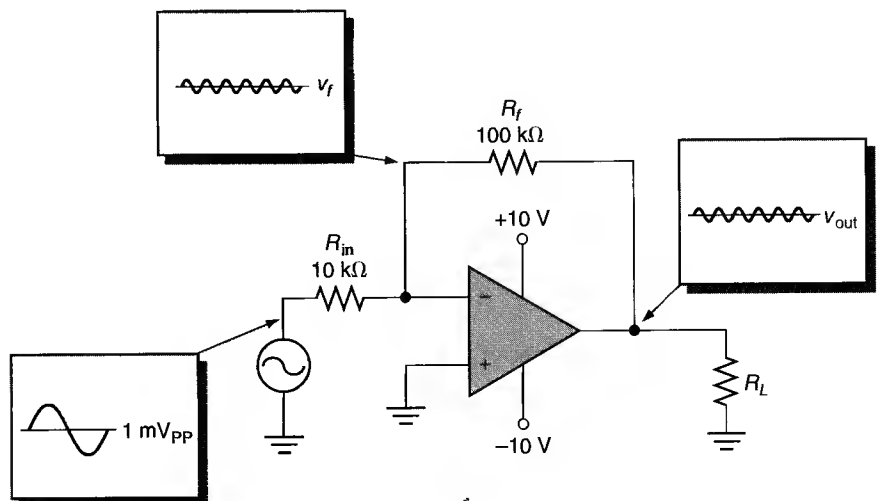

FIGURE 15.70
44. The circuit shown in Figure 15.70 has the waveforms shown. Determine the cause of the problem. (*Hint: The measured value of R_f is exactly as shown; that is, R_f is not the problem.*)